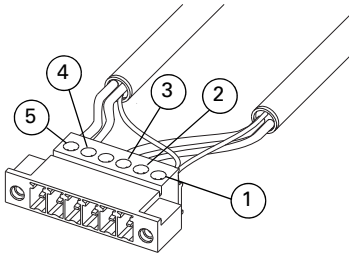

Fig. 9: Terminal Block Connections
- 6 Connect the power supply cables and the 2-wire serial cables into the terminal block supplied in the order shown in Figure 9.
- 2 Connect the DC power supply cables and 2-wire serial cables into the terminal block. Connect cable conductors to positions on the terminal block as shown in Figure 9.